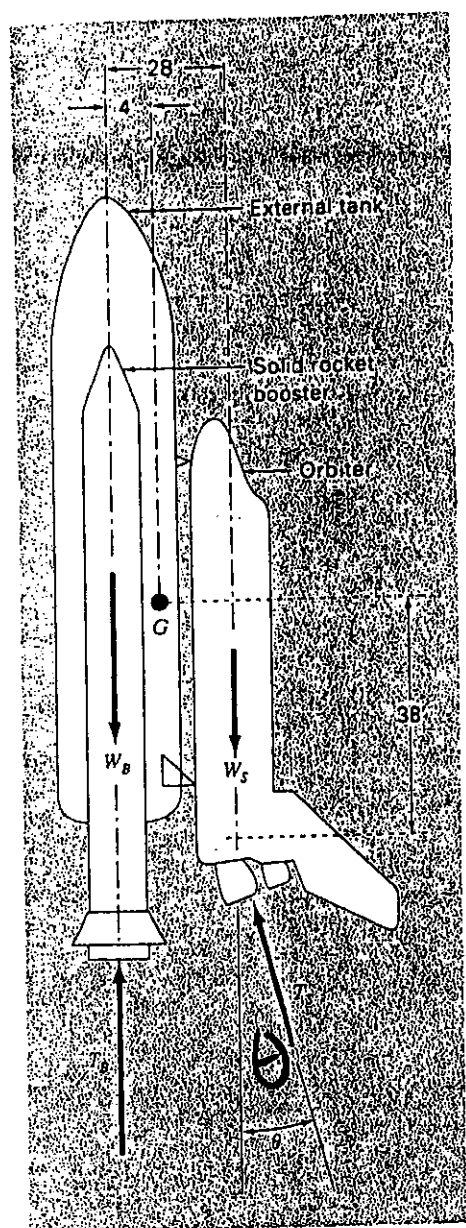

Figure P8.46
8.46 The space shuttle, at lift-off from the launch pad, has four forces acting on it, which are shown on the free-body diagram (Fig. P8.46). The combined weight of the two solid rocket boosters and external fuel tank is $W_B = 1.663 \times 10^6$ lb. The weight of the orbiter with a full payload is $W_S = 0.23 \times 10^6$ lb. The combined thrust of the two solid rocket boosters is $T_B = 5.30 \times 10^6$ lb. The combined thrust of the three liquid fuel orbiter engines is $T_S = 1.125 \times 10^6$ lb.